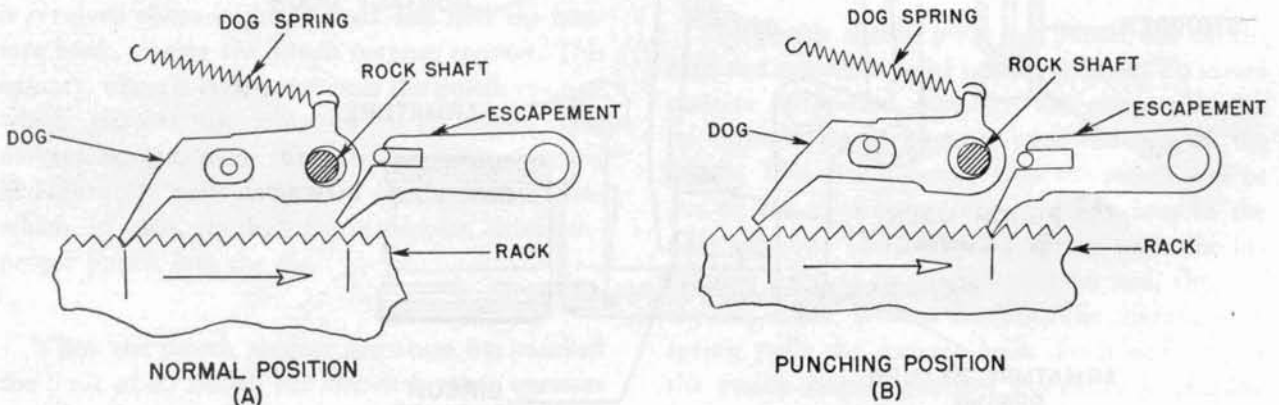
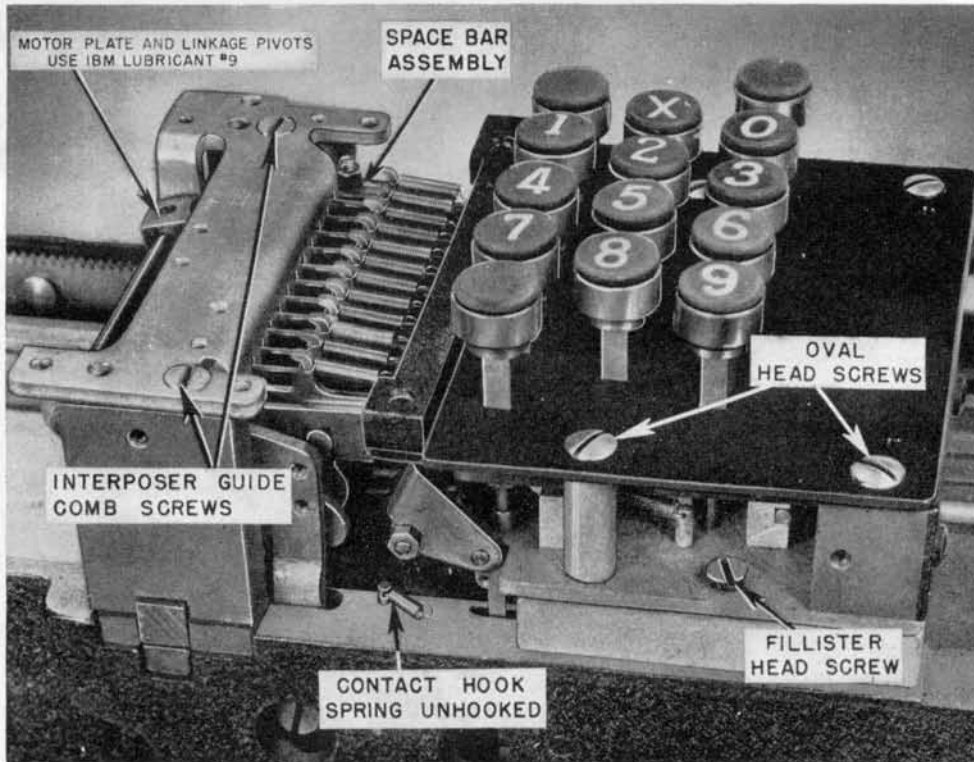

Figure 16
Figure 21
As the motor plate forces the interposer and the punch downward during the punching operation, it also moves the space bar downward (Figure 21). This operates the spacing mechanism for the purpose of moving the card to the next column. The mechanism used for spacing is referred to as the "dog and escapement" (Figure 16) and is generally used for this purpose on all key punching equipment.
Procedure for Removing Key Assembly - Figure 21
3. Remove motor plate and guide comb (2 screws, Figure 21).